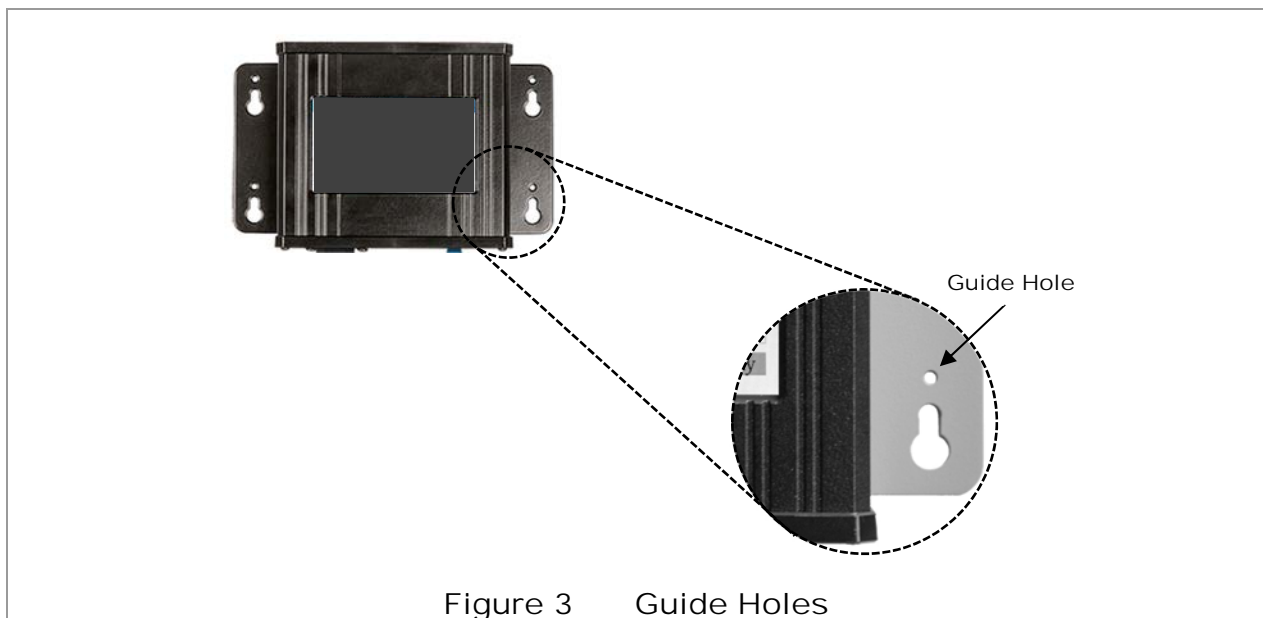

Figure 3 Guide Holes
- o The Gateway has 'keyhole' mountings on its baseplate. Each hole has a guide hole. (See Figure 3.) These four holes can provide a template for mounting such that a pen or center punch can be inserted to mark the wall and ensure accurate drilling of holes. The Gateway can be mounted using #8 screws.